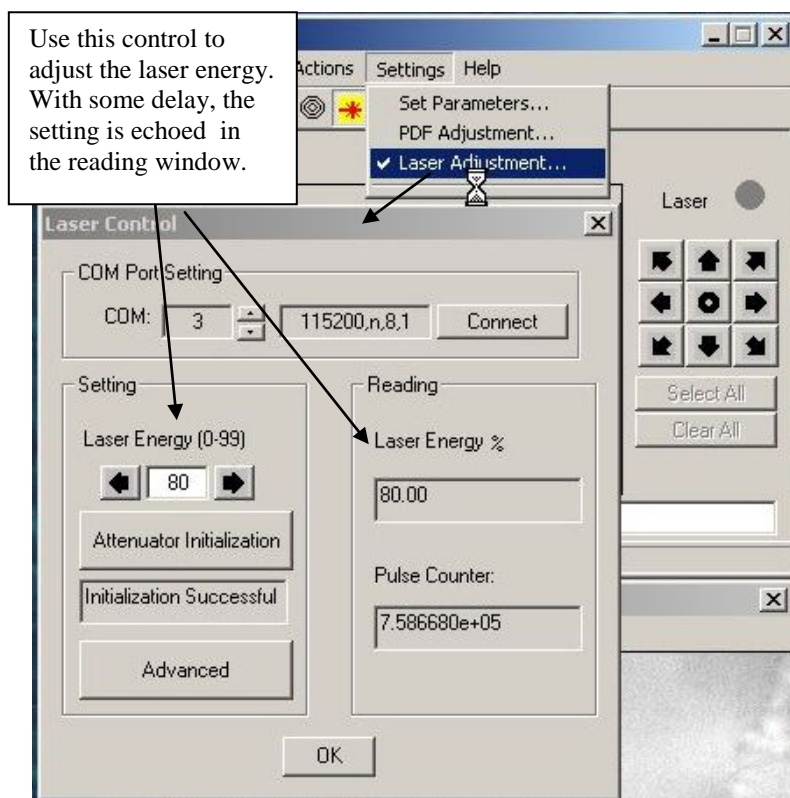

Figure 7.16. Laser Adjustment Dialog
To adjust the laser attenuation, use the dialog box shown in Fig. 7.16 (accessed through the **Settings** -> **Laser Adjustment** menu item).
- Laser pulse energy and frequency may be easily tuned through the Target Software (see Fig. 7.16 and 7.13, correspondingly). Typically, the operator should pay attention to the maximum signal, for every matrix type (α -CHC, DHB and so on).
Then increase the laser energy in Target Software so that roughly the same laser fluence (energy/area) is maintained (Figure 7.16). The purpose behind this exercise is to generate more analyte ions per laser shot.